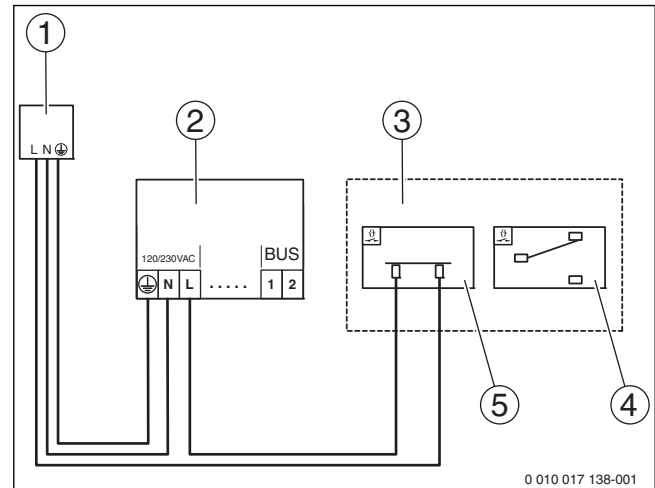

Fig. 21 Connection of power supply for installation in combination with an unvented domestic hot water cylinder
- The safety thermostat section of the dual thermostat **must** be wired in such a way as to interrupt the permanent live connection to the Greenstar Wiring Centre (→ Fig. 21).
- TR3 Room thermostat (**T**hermostat **R**oom temperature); optional; not shown in Fig. 21
- TF4 Frost stat (**T**hermostat **F**rost protection); optional; not shown in Fig. 21